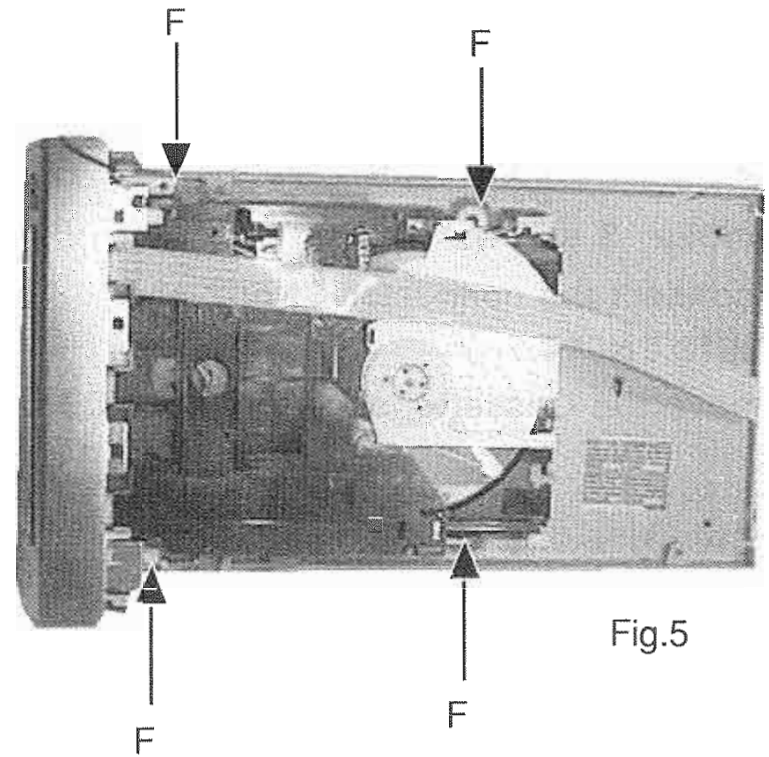

Fig.5
2. Remove 4 screws (F) fastening the CD changer mech. ass'y (Fig.5).